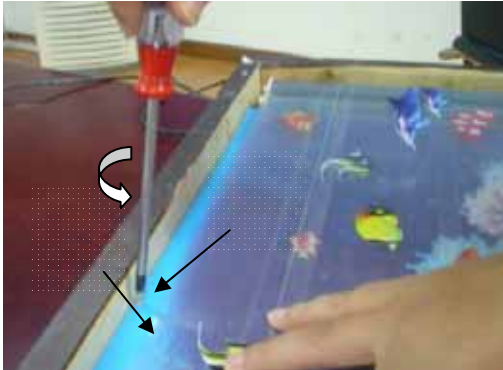
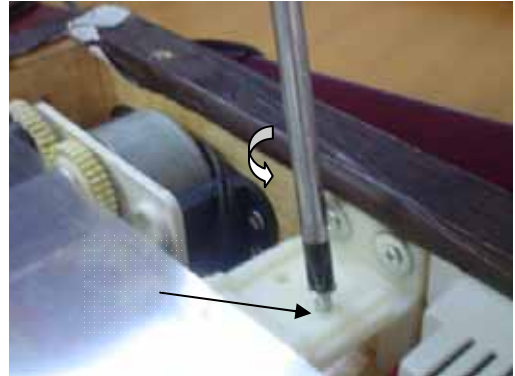

Fig.7
Fig.8
- 1, Power off the product, use a plane screw driver to take out the screws from the acrylic sheet as shown in Fig.7, then take out the screws on 4 underlaid plates as shown in Fig.8.